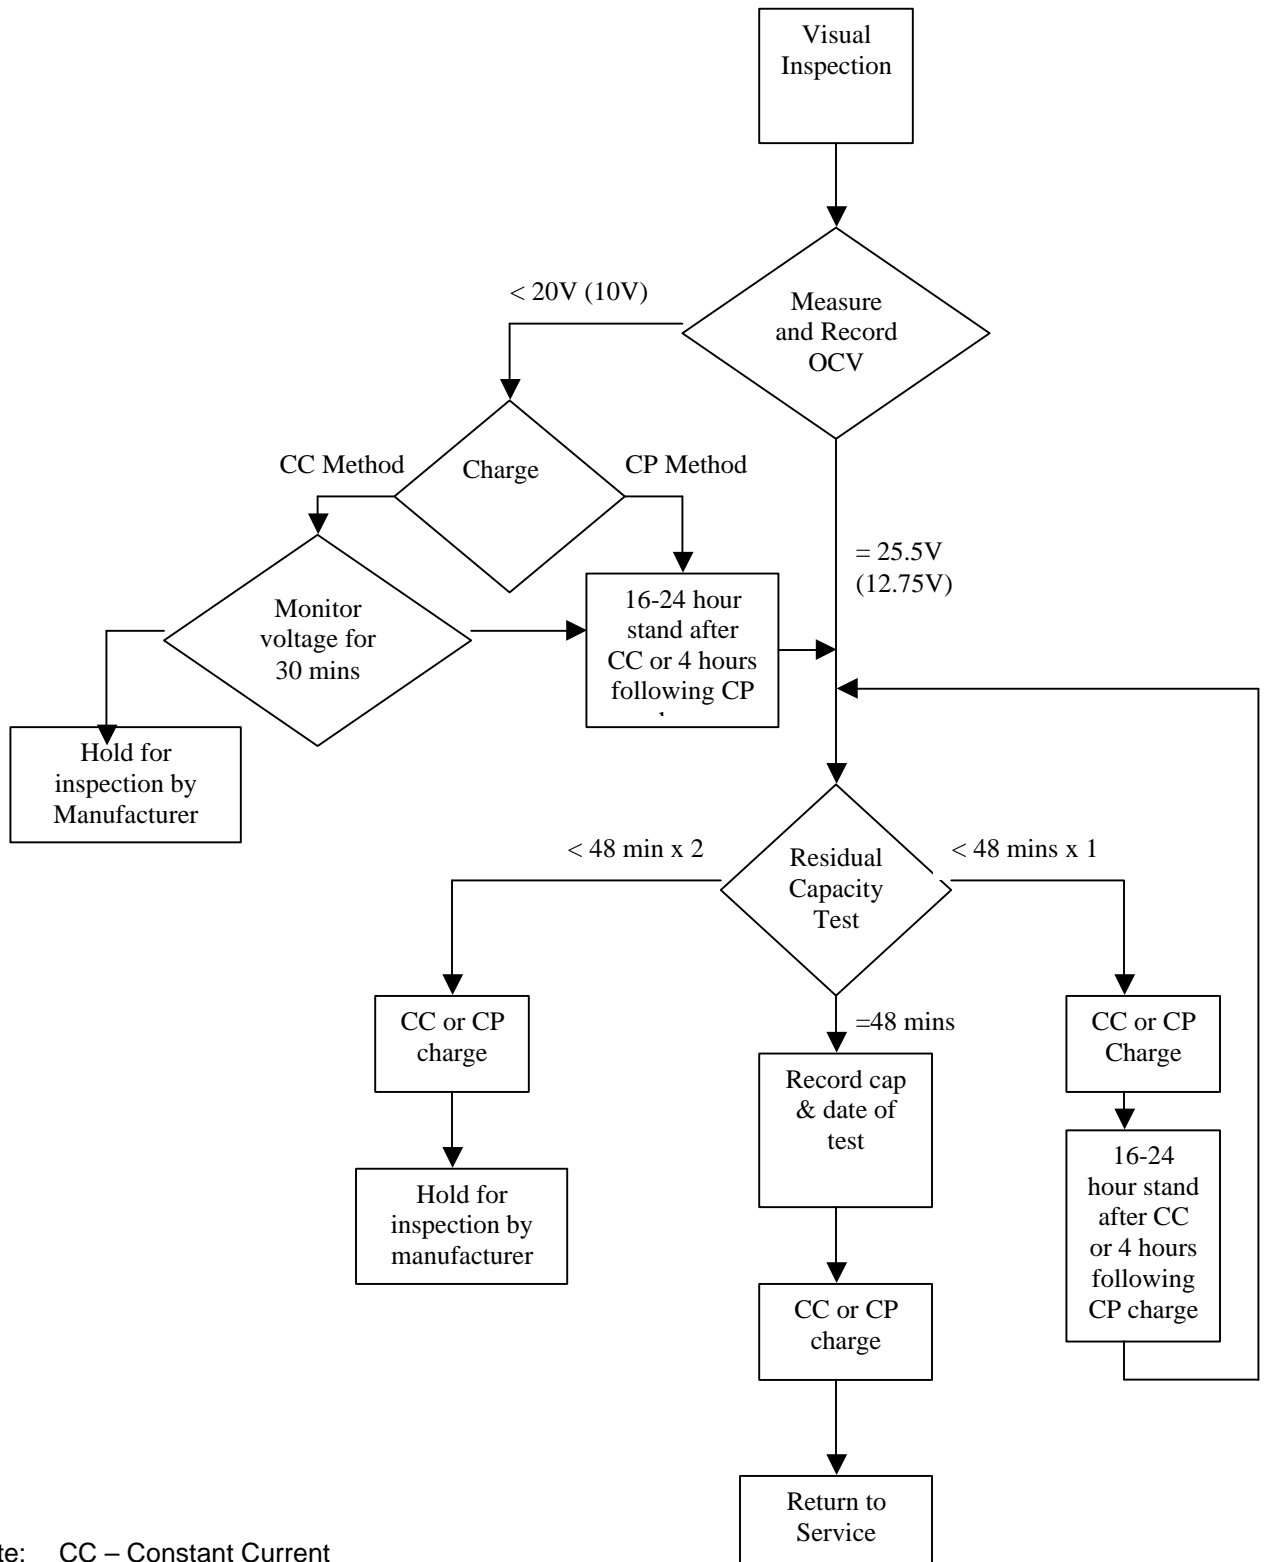

**FIGURE 1**
**Step 1** - Install items 1 through 3 as shown in figure 1.
**Step 3** - Install spacers as shown on figure 1.